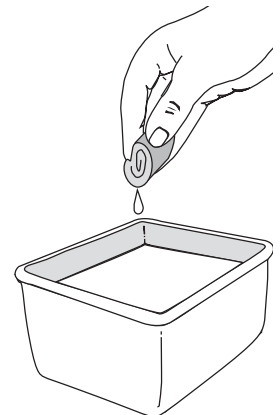

Fig. 23
3. Wash the filter in detergent and water (Fig. 23). Rinse the filter thoroughly. Squeeze out excess water. Allow it to dry completely.